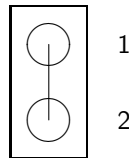

Figure 2.3: Jumper J9
- J9 makes connection between the ERRORIN pin and the EVENTREQ pin of the transputer. So if this jumper is inserted as shown in figure 2.3 an activation of ERRORIN of the ERROR PAL U52 also generates an event.